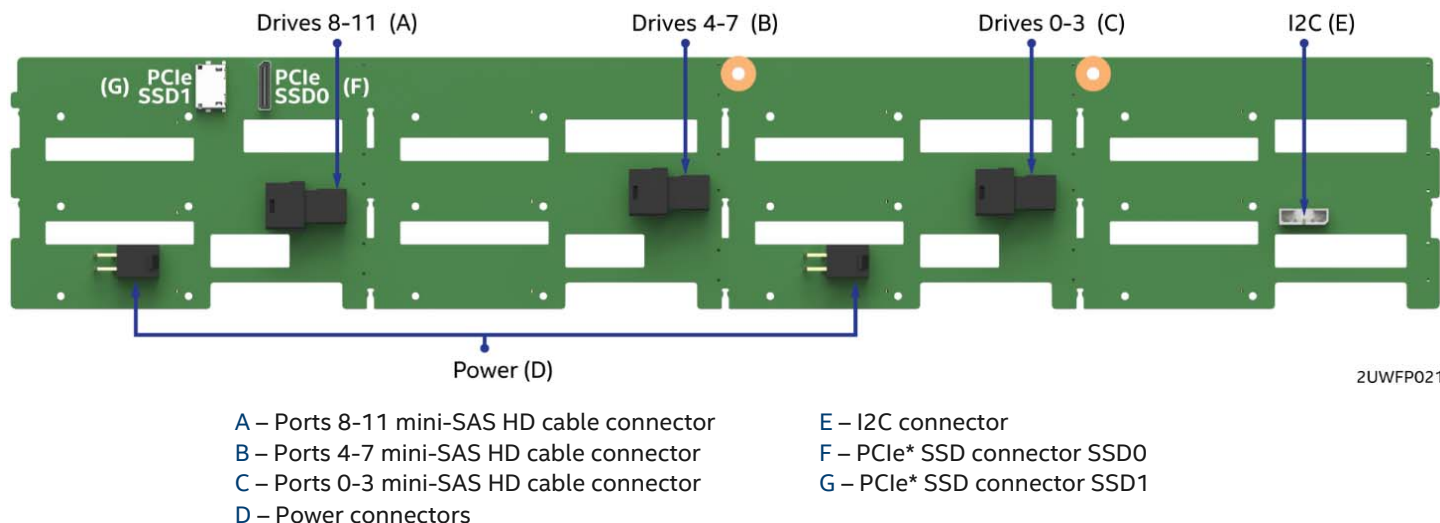

**Figure 56. 12 x 3.5" HSBP connector identification**
**Note:** Letters in parenthesis denote references to connectors on the back side of the backplane as illustrated in Figure 56.